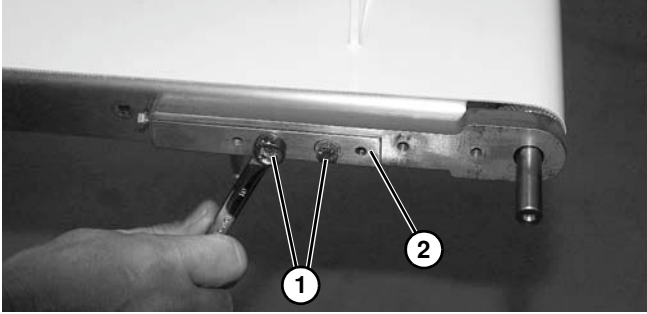

Figure 52
5. Loosen two screws (**Figure 52, item 1**) securing end plate (**Figure 52, item 2**) onto conveyor. Repeat on opposite side.